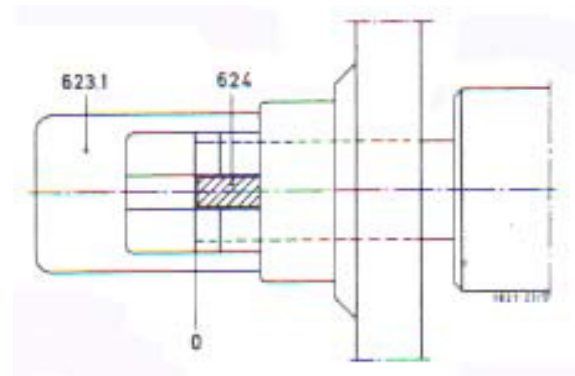

Figure 21 – Rotor position, pump operation normally
If the end of the pin (624) in line with the pump side marking, this means the balance device (601 and 602) is so worn that it must be replaced (see Figs. 21 and 22).